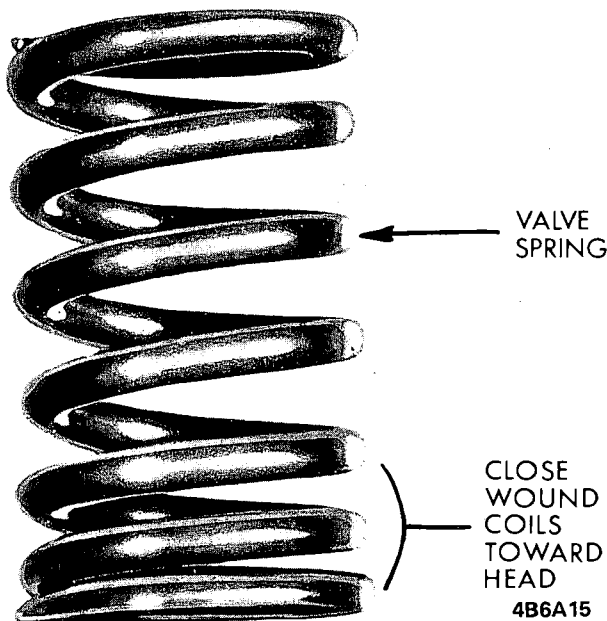

Figure 6A-66 - Valve Spring (350 cu.in.)
14. Install intake valve springs on the 350 cu. in. with closely-wound coil toward the cylinder head. Exhaust valve springs on the 350 engine and all valve springs for 231 and 455 cu. in. engines, may be installed with either end up. See Figure 6A-66.